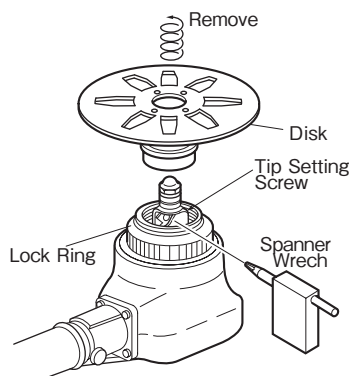

Fig.10
(2) Indexable Insert replacement method (Fig.10)